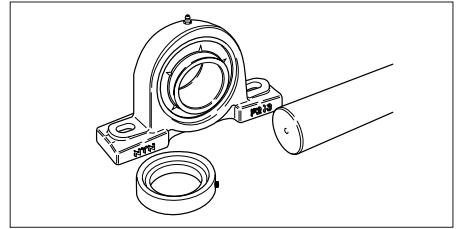

Fig.8.9
- 2) Check the shaft end for burrs and confirm that the tip of eccentric collar set screw does not stick out of the bearing bore face (**Fig.8.9**).